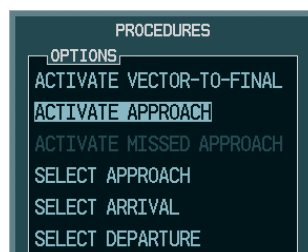

Figure 5-136 Manually Activate Approach
- Turn the large **FMS** Knob to highlight 'ACTIVATE APPROACH' as shown in Figure 5-136.